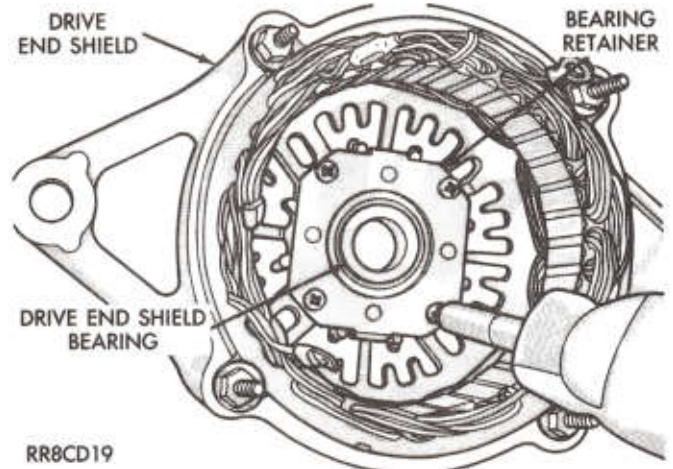

Fig. 18—Remove or Install Drive End Shield Bearing Retainer
(12) Remove drive end shield bearing retainer (4) attaching screws and remove the retainer (Fig. 18).